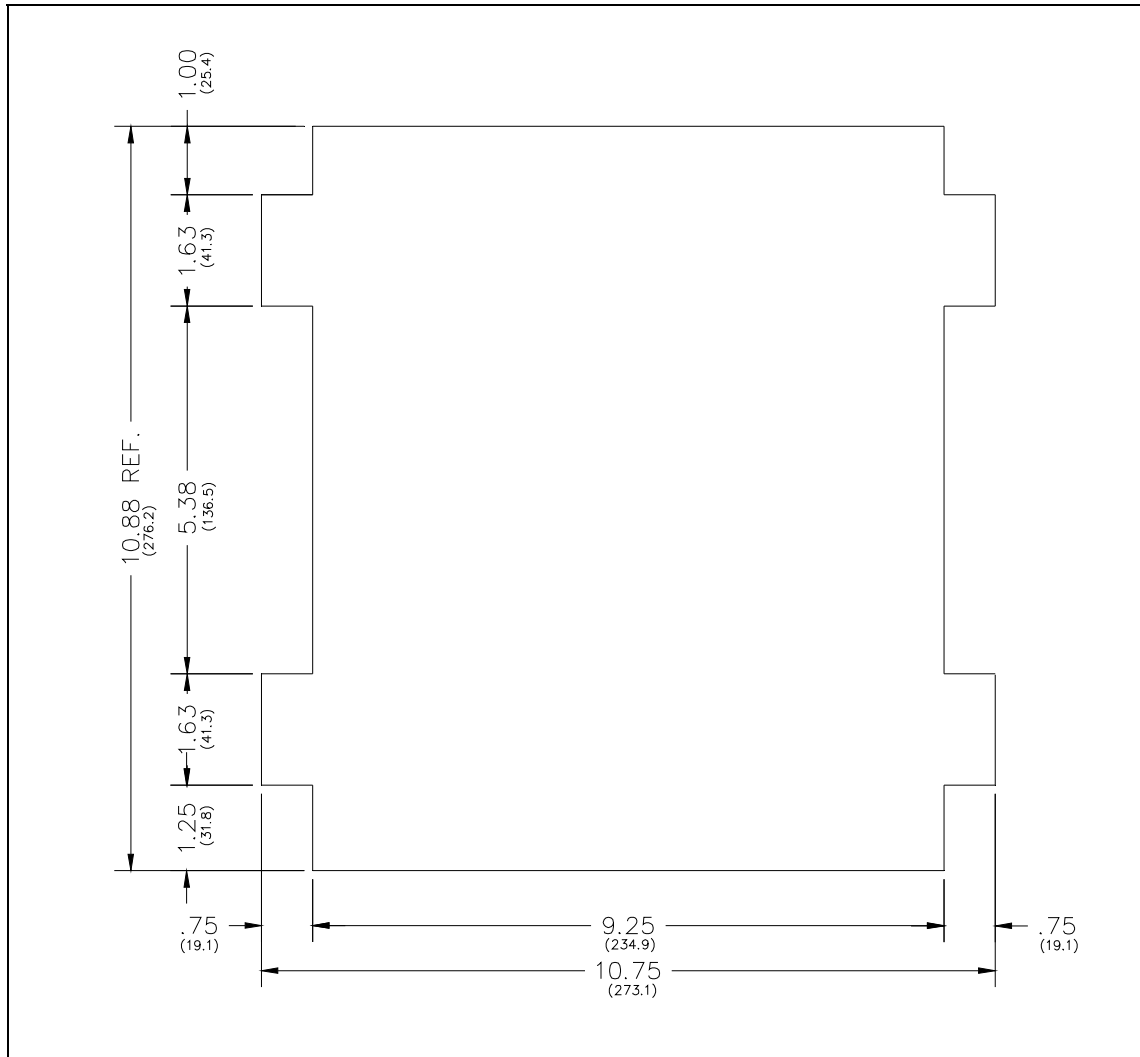

Figure 5. Wall Cut-out Dimensions for Model 295-702F
2. Refer to Figure 5 on page 10 for cut-out details. Use the cut-out dimensions as a guide to mark the wall, and make the required cuts.